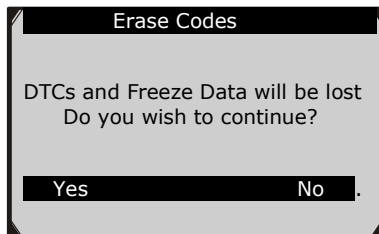

Figure 5.7
- 3) If you press **Yes** function key or **OK** button, a warning message will come up asking your confirmation. (Figure 5.7)